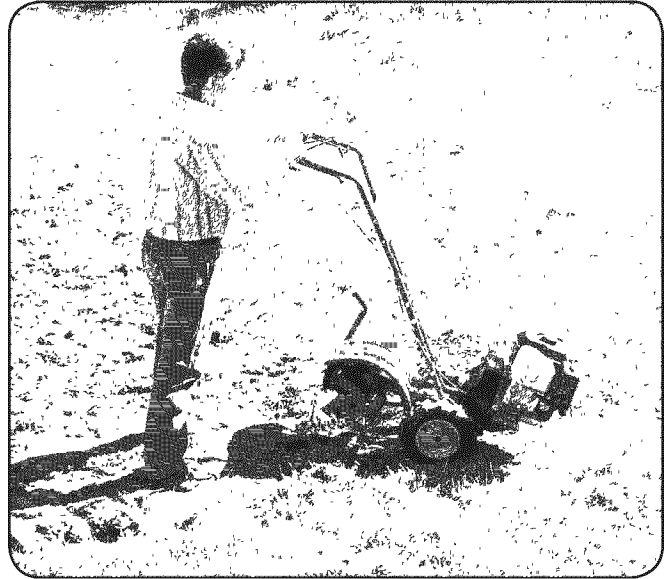

Figure 5-2
2. To begin a turn, lift the handlebars until the tines are out of the ground and the engine and tines are balanced over the wheels (Fig. 5-2).